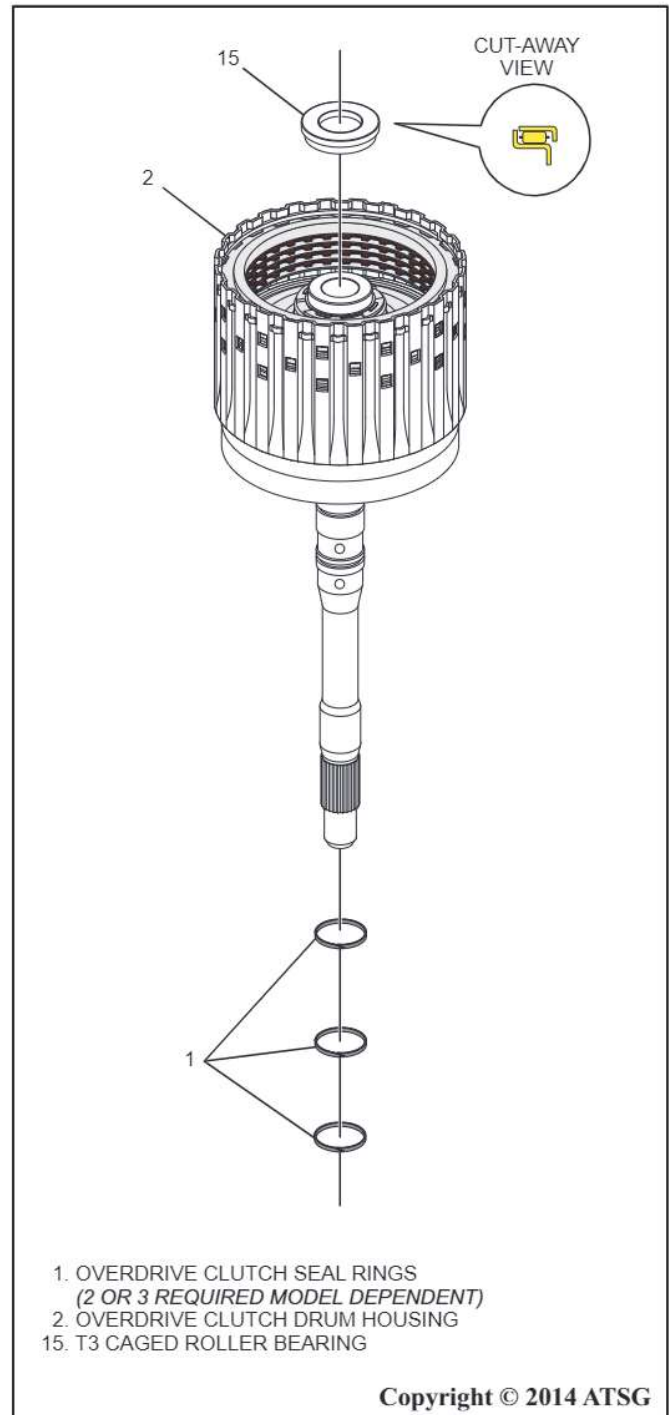

Figure 80
25. Install new overdrive clutch seal rings into the grooves in the turbine shaft and coat the rings with a small amount of Trans-Jel® as shown in Figure 80.
26. Install the T3 caged roller bearing onto the overdrive clutch housing as shown in Figure 80 and secure with a small amount of Trans-Jel® and set drum aside for final assembly.